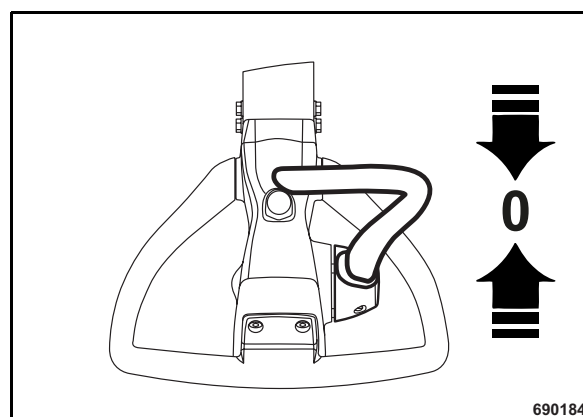

Fig. 22
- Shift the travel lever (Fig. 22) to position "0".